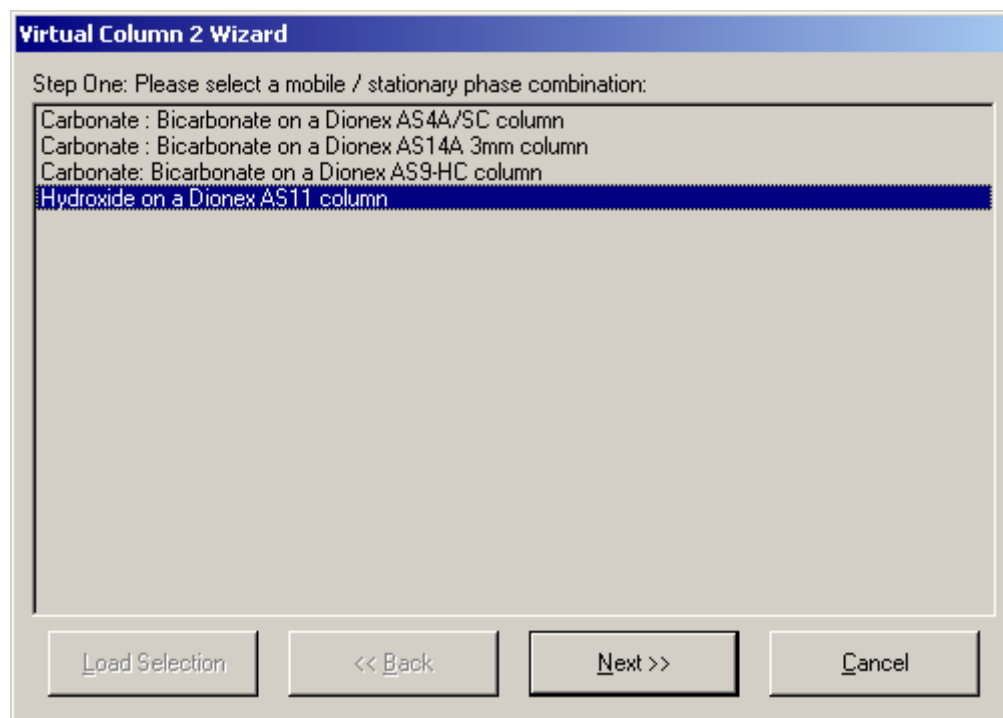

Figure 18. Virtual Column 2 Wizard Step One.
- Left click once on 'Hydroxide on a Dionex AS11 column' (Figure 18).